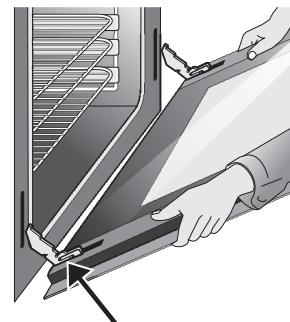

Figure 51: Hinge pin location
4. Keep pulling the bottom of the door toward you while rotating the top of the door toward the appliance to completely disengage the hinge levers (Figure 51).
2. Holding the oven door at the same angle as the removal position, seat the hook of the hinge arm over the roller pins located on each side of the oven door frame (Figure 51). The hook of the hinge arms must be fully seated onto the roller pins.